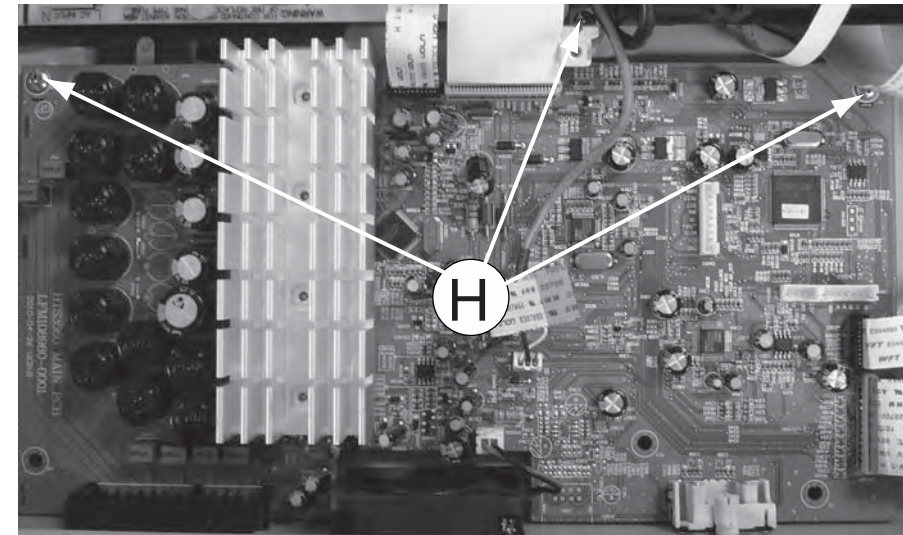

Figure 14
- 1) Loosen 3 screws “H” on the top of MAIN Board as shown in figure 14.